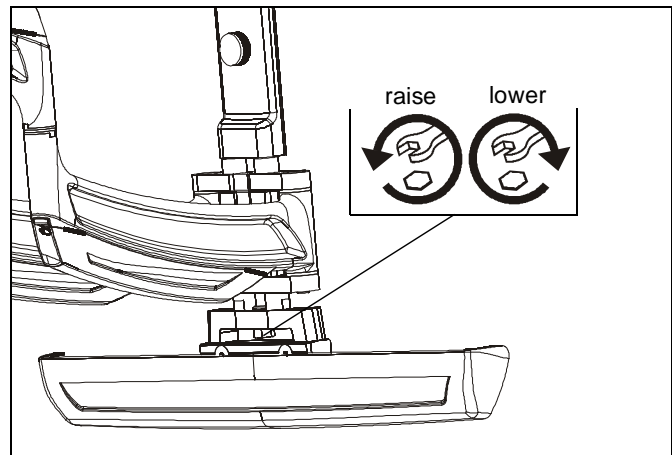

Figure 24
2. Adjust height adjustment wrench to raise or lower mount to desired height. Turn counter-clockwise to raise mount and clockwise to lower mount. (See Figure 24)